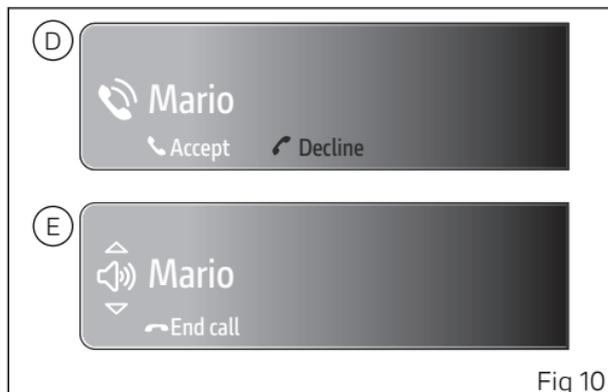

Fig 10
When you receive a call, a green window is shown with the name or number of the caller as well as the items "Accept" and "Decline" (D, Fig 10).
When a call is in progress, a green window is shown with the name or number of the contact as well as the item "End call" (E, Fig 10). To end the call, press the ENTER button (3).